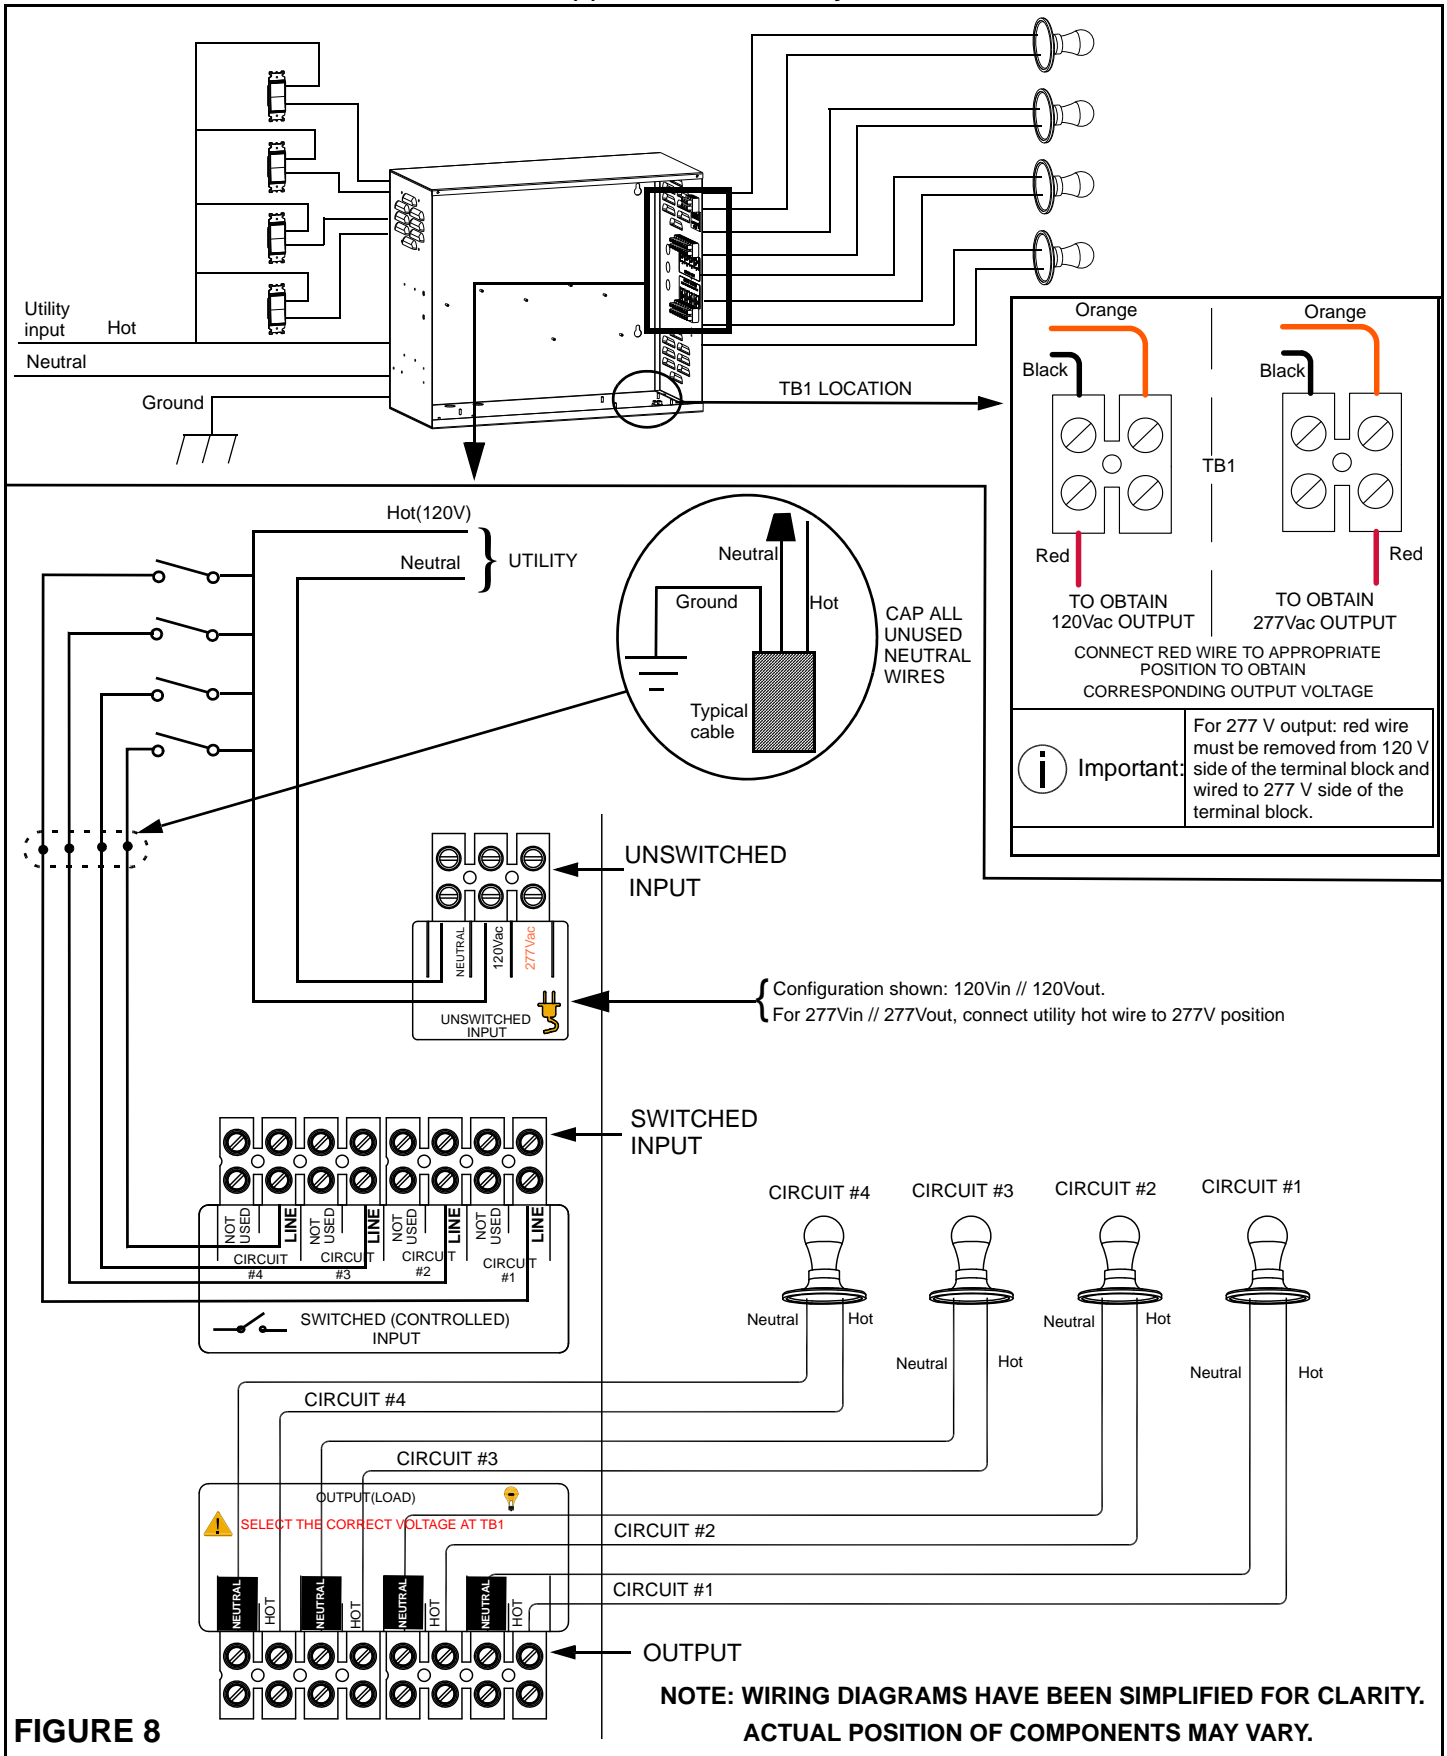

FIGURE 8
- Switched Load Operation** (Refer to Figure 8 for wiring details) - Fixtures can be externally controlled and will illuminate upon loss of utility AC power regardless of the state of the external control device (switch, motion sensor, dimmer, etc.).